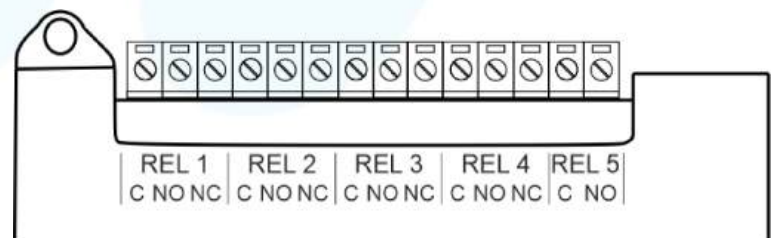

Fig.8
- Configurable for Normally Open (NO) or Normally Closed (NC). Relay 5 has only Normally Open (NO) (Fig. 8).